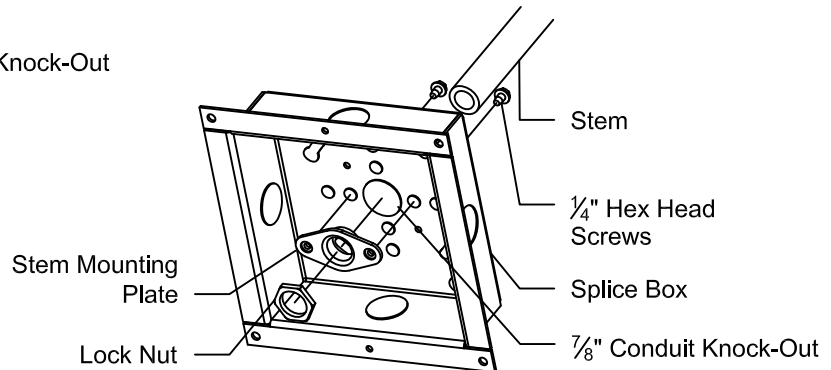

FIGURE 8
Stem Kit Installation: Figure 8, remove center 7/8" conduit knock-out on fixture splice box and (2) inside auxiliary mounting knock-outs that align with the stem mounting plate. Secure Stem Mounting Plate with (2) 1/4" Hex Head Screws as shown in figure 8; Stem Mounting Plate will protrude through Splice Box. Thread Stem into Stem Mounting Plate and secure with supplied Lock Nut, as shown. Splice fixture wires to lead wires with wire nuts inside fixture splice box, then route wires through stem. DO NOT REMOVE SPLICE BOX FROM FIXTURE.